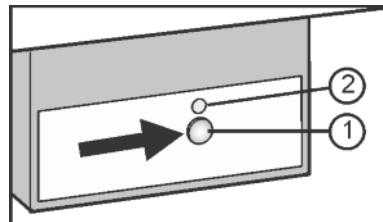

Fig. 9
- Press On/Off button Fig. 9 (1) so that the LED Fig. 9 (2) lights up.